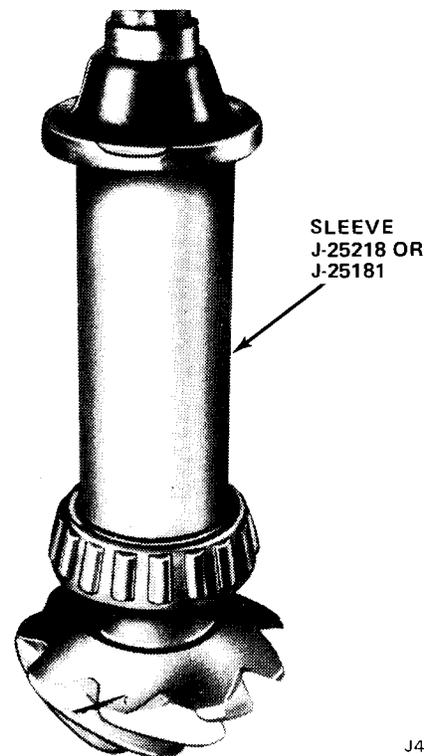

Fig. 10-55 Pinion Bearing Installing Sleeve
(1) Install outer bearing cup using Driver J-25101.
(2) Install inner bearing cup using Installer J-25101 on Model 30 axles, and Installer J-25157 on Model 44 and Model 60 axles to drive cup into housing.
(3) Use Sleeve J-25218 to press inner bearing onto pinion shaft on axle Models 44 and 60. Use Sleeve 25181 on Model 30 (fig. 10-55).
(4) Install pinion gear in housing and install 0.065-inch shim, inner bearing, and universal joint yoke to hold pinion in position for pinion depth adjustment. Install pinion nut. Tighten nut only enough to remove end play and allow 10 to 15 inch-pounds of rotating (drag) torque and measure pinion depth.